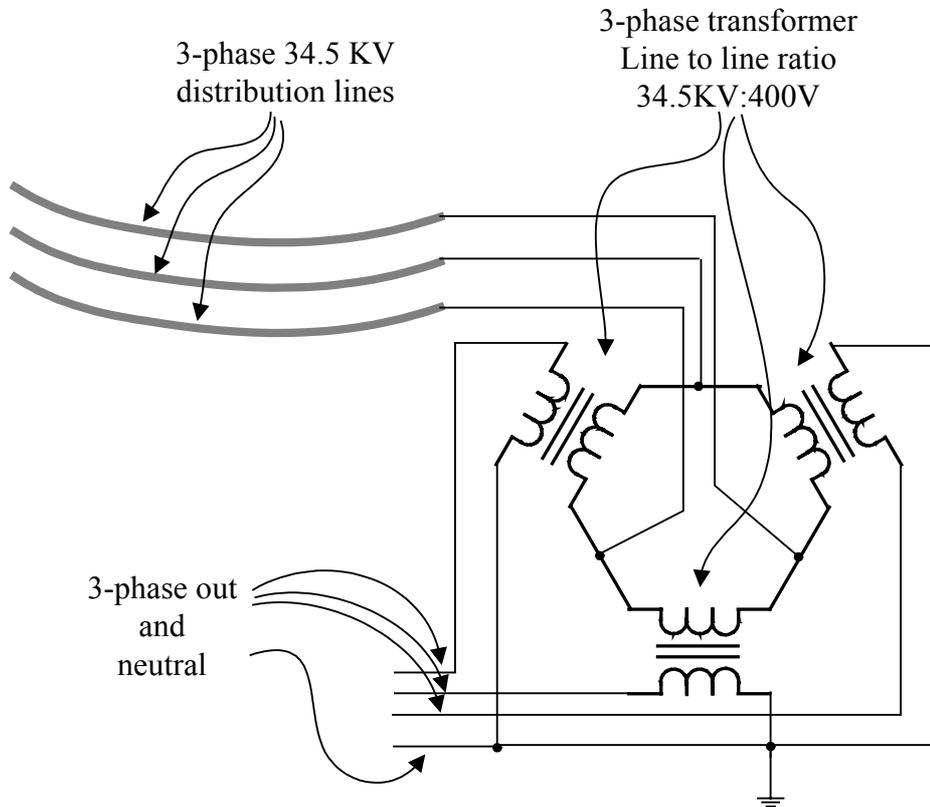

Figure 2.29 MV to LV transformer
The potential difference between the phases is therefore 1.73 times larger than any one of phase voltage with respect to neutral. The line voltage level is 380-400 Vrms for a phase voltage of 220 V. The last step-down from MV to low voltage (LV) is depicted in Figure 2.29 below.
A typical MV to LV transformer configuration is given in Figure 2.29. The three phase line voltage of 34.5 KV MV is connected to the primary windings of a three phase transformer, which is connected in a " Δ " configuration. The secondary terminals are LV terminals, and three windings are now configured in a " Y " form.